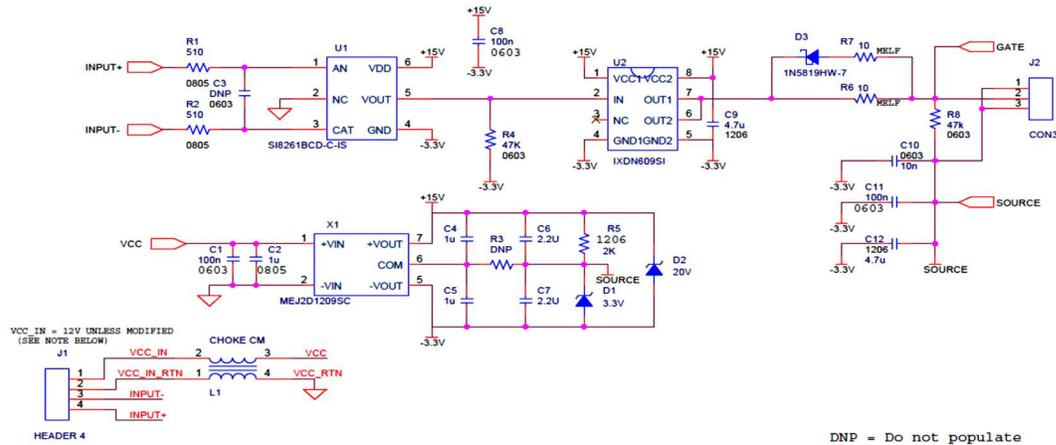

Figure 7: Schematic of Cree's CGD15SG00D2 gate driver board
In Cree's CGD15SG00D2 gate driver board, X1 gets 12V input and with the help of a Zener diode (as shown in Figure 7) at the output, X1 gives a dual output of +15 V (turn-on signal) and -3.3 V (turn-off signal). Gate resistors R6 and R7 and a diode D3 (as shown in Figure 7) have been provided for gate turn-on and gate turn-off signals. These gate resistors R6 and R7 are metal electrode leadless face (MELF) 207 packages with a power rating of 0.4W.
In order to minimize stray inductance and to achieve tight coupling, capacitors C10-C12 (as shown in Figure 7) have been placed very close to the source output pin. Specified operating conditions for Cree’s CGD15SG00D2 gate driver board are shown in Table 2.
Detailed schematic of Cree's CGD15SG00D2 gate driver board has been shown in Figure 7.
- Biasing input (VCC) (as shown in Figure 7) needs to be set at 15V instead of 12V.
- The 3.3V zener diode (D1) (as shown in Figure 7) that sets the negative bias voltage must be removed.